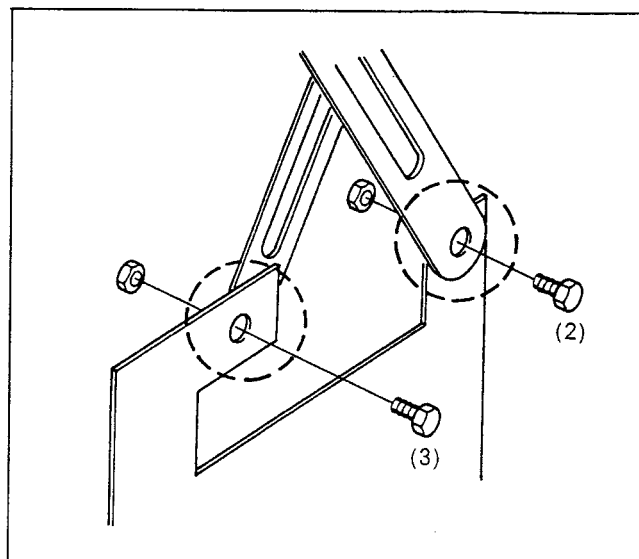

Fig. T3
- (2) Mount the Camera Holder Arm (B) to the Camera Holder (D) by screws (2) and (3) as shown in Fig. T3.